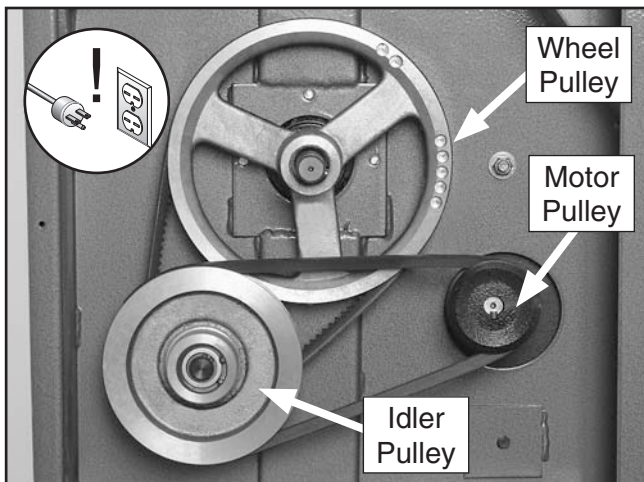

Figure 43. Pulleys and V-belts.
5. Take off the pulley cover plate by removing the six Phillips head screws. You now have access to the V-belts for inspection or service (see **Figure 43**).